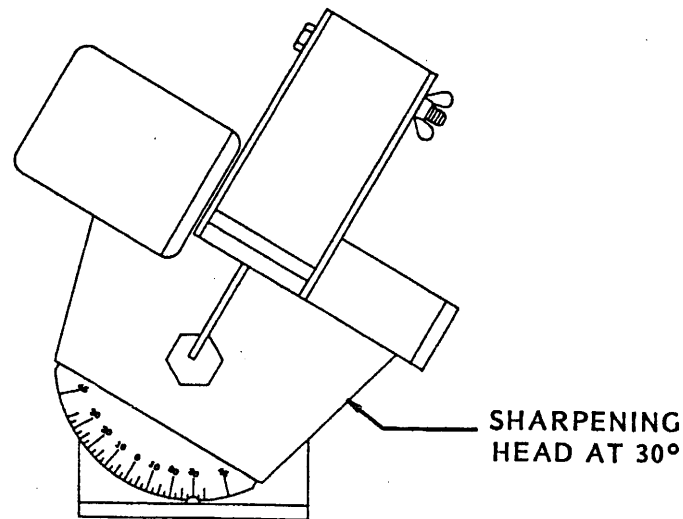

FIGURE 17
11. Set TOP PLATE CUTTING ANGLE by setting the scale on the back of the throat to desired angle. (See Figure 17.) (Again we will use 30° for an example.) Follow manufacturer's specifications for recommended angles. This represents degrees this angle tilts past 90°.